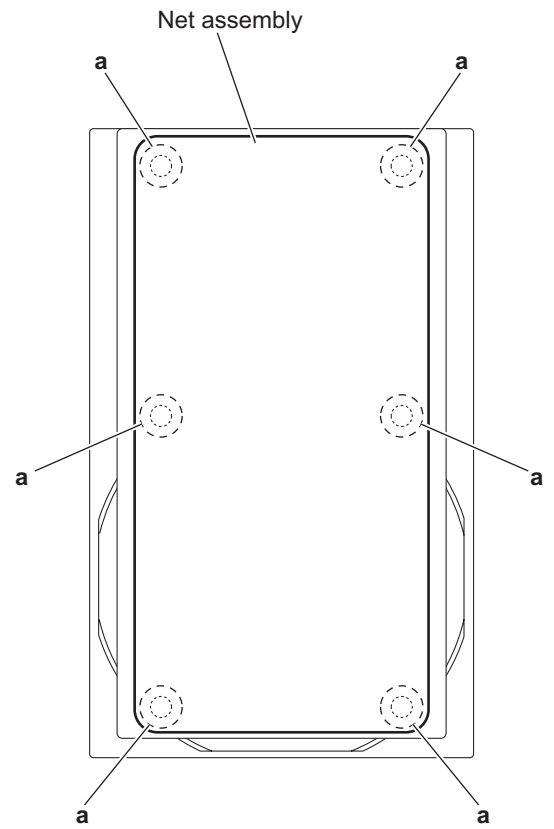

Fig.1
3.4.1 Removing the net assembly (See Fig.1)